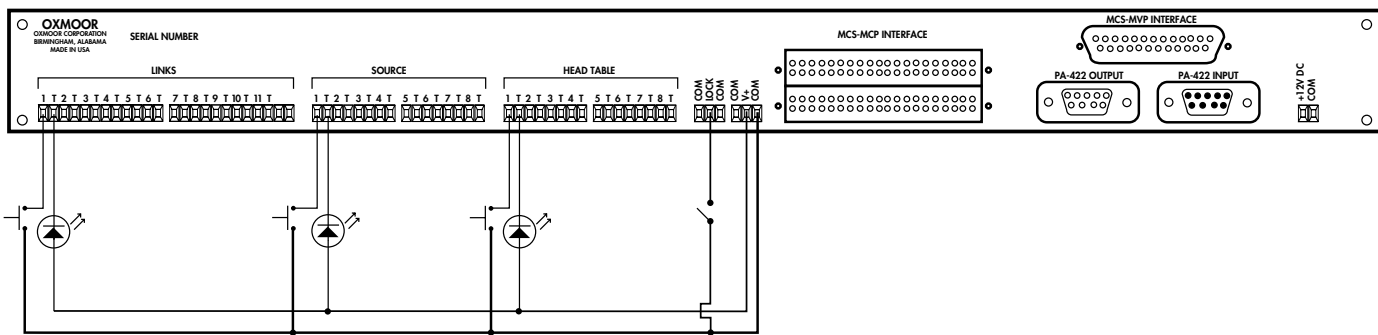

Figure 2.7: MCS-IB Interface Box Screw Terminal Connections
(Refer to Figure 2.7)
1. **LINKS.** As illustrated in Figure 2.7 above, wire a momentary contact switch between a numbered LINK terminal (1 through 11) and the COM terminal for each LINK line to be programmed.
As illustrated in Figure 2.7 above, wire a momentary contact switch between a numbered SOURCE terminal (1 through 8) and the COM terminal for each Line Input Card in the system.
As illustrated in Figure 2.7 above, wire a momentary contact switch between a numbered HEAD-TABLE terminal and the COM terminal for each Line Input Card in the system.